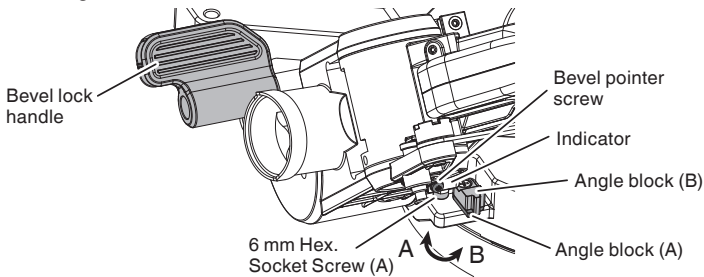

Fig. 13-c
8. 90° Indicator (For bevel scale) adjustment (Fig. 13-c)